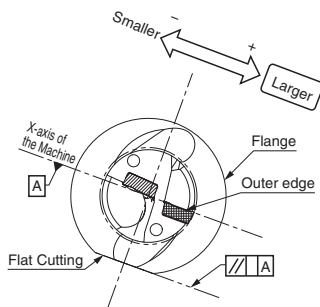
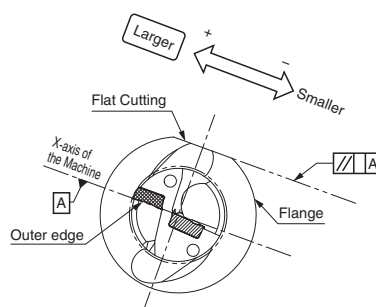

Fig. 2 Outer insert Facing Up
Fig. 3 Outer insert Facing Down
The Center Height is appropriate if a core approximately 0.5mm diameter remains at the center of the end face. (Fig. 3)
- (2) In case of making the hole diameter larger, slide the tool along the X-axis toward the outer side. (Fig. 2, Fig. 3)